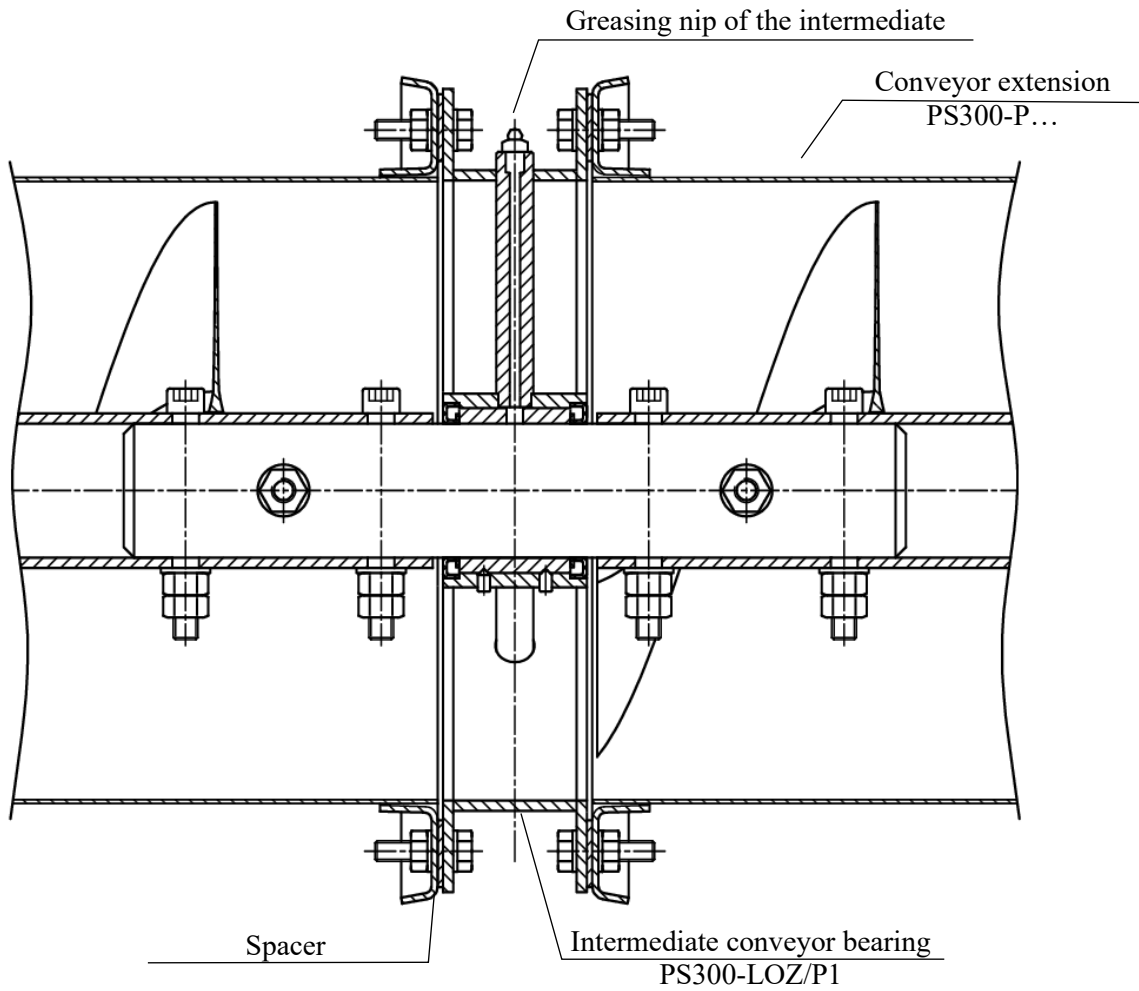
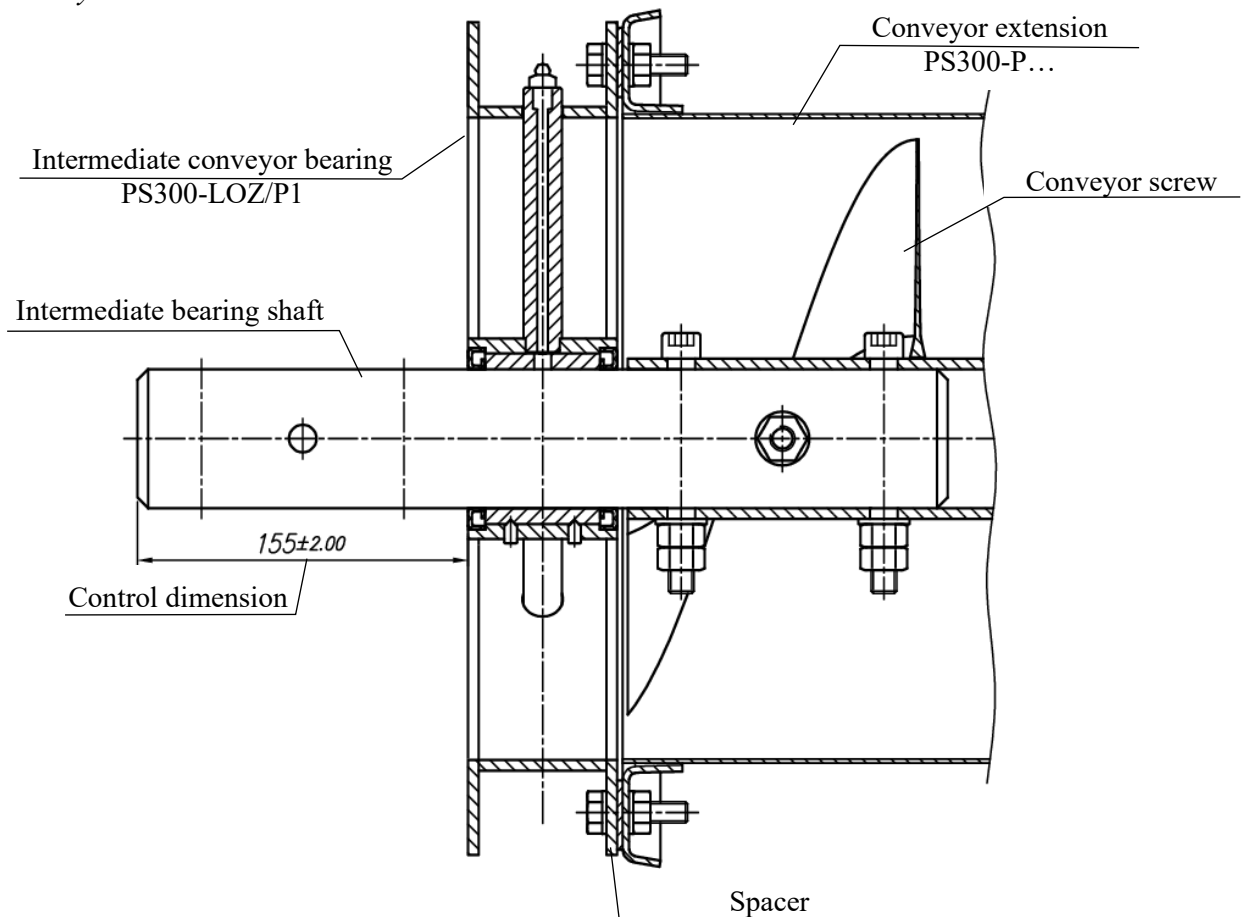

Figure 23. Connection of the intermediate bearing of the PS300-LOZ/P1 conveyor to extensions of the PS300-P... conveyor
Figure 24. Correct extension length of the conveyor intermediate bearing shaft
- At the next step, further extensions and intermediate bearings need to be installed on the assembled conveyor drive with the extension with the outlet. Install one spacer from the conveyor set between the intermediate bearing and the extension (Fig. 23). During installation, monitor the extension length of the intermediate bearing shaft (Fig. 24). The extension length of the intermediate bearing shaft cannot be shorter than 153 mm and longer than 157 mm. The extension length of the bearing shaft should be verified before a screw of another conveyor extension is installed. If necessary, the extension length of the bearing shaft can be adjusted by installing or removing of spacers between the intermediate bearing and the extension. Cover the shaft of the intermediate bearing with a layer of solid grease of the LT-43 type or similar, and fill the bearing with grease. During installation, seal all flanges of the conveyor with roofing sealant.